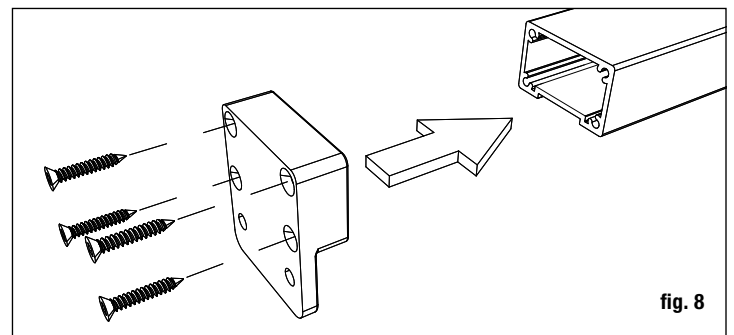

fig. 8
Step 7 Place the brackets on ends of the rail. Attach the brackets to the rail with a screw attached through back of bracket into each internal screw boss (fig. 8).